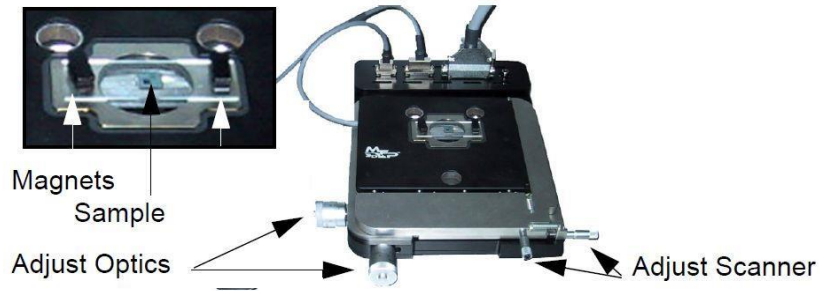

Figure 4. Sample stage and sample positioning.
3. Secure the slide to the stage with the two small magnet blocks on both sides (Figure 4).
4. Adjust sample position with respect to the cantilever tip with the adjustment knobs on the right side of the base plate (Figure 4).
8. Find the area of interest on sample surface by adjusting the scanner adjustment knobs on the right side of the sample stage (Figure 4).
4. If you can't see the laser spot, turn the thumbwheel on the right side of the AF head (labeled **LDX**, Figure 4) counter clockwise to move the laser spot outward along the cantilever length until the spot appears. **If no spot can be seen on the IR card, charge the IR card for a few seconds under the fluorescent light.**